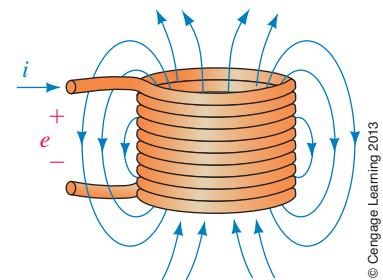

FIGURE 13-29
- If the flux linking a 75-turn coil (Figure 13-29) changes at the rate of 3 Wb/s, what is the voltage across the coil?